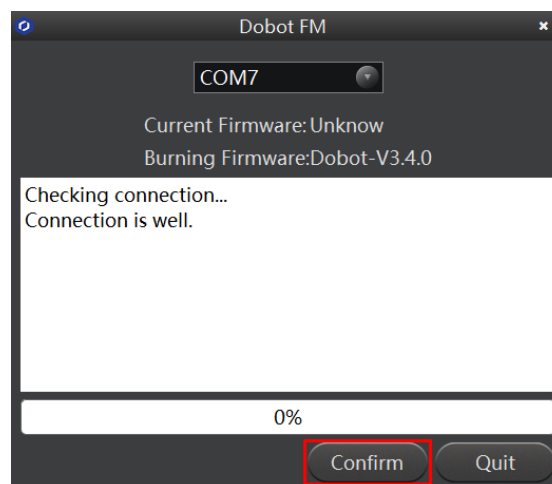
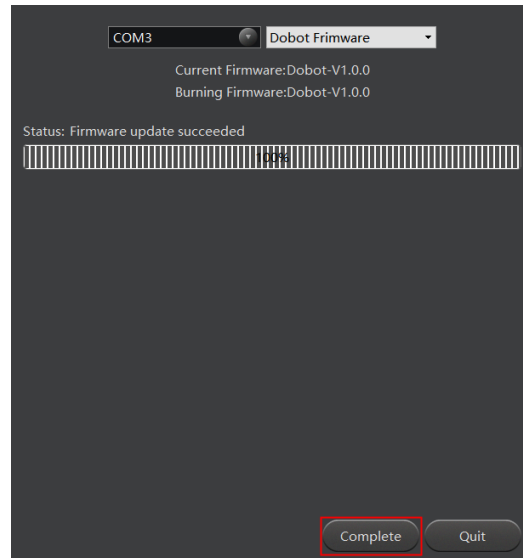

Figure 5.77 Click Confirm
Figure 5.78 The firmware upgrade is successful
3. Click **Confirm** to upgrade the Dobot firmware, as shown in Figure 5.77. When the upgrade process bar shows 100%, and a short beep sound is heard, it means that the firmware is upgraded successfully, as shown in Figure 5.78. In this case, the LED indicator turns from red to green. Then click **Complete** to exit.